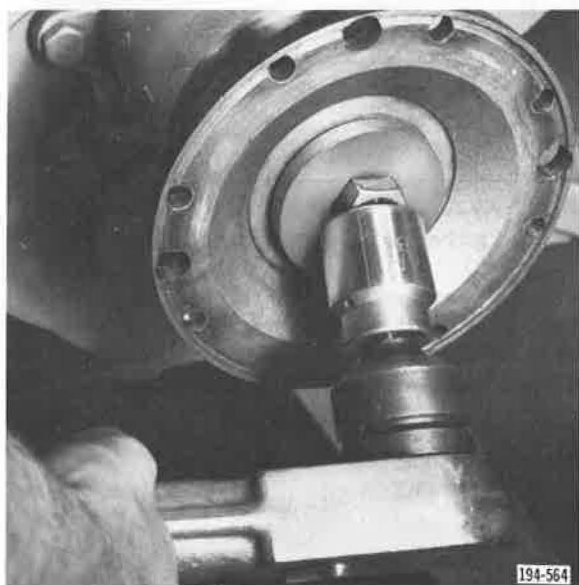

Figure 38. Removing Capscrew
38. Remove drive flange (or yoke) clamp plate capscrew and clamp plate. See Figure 38.